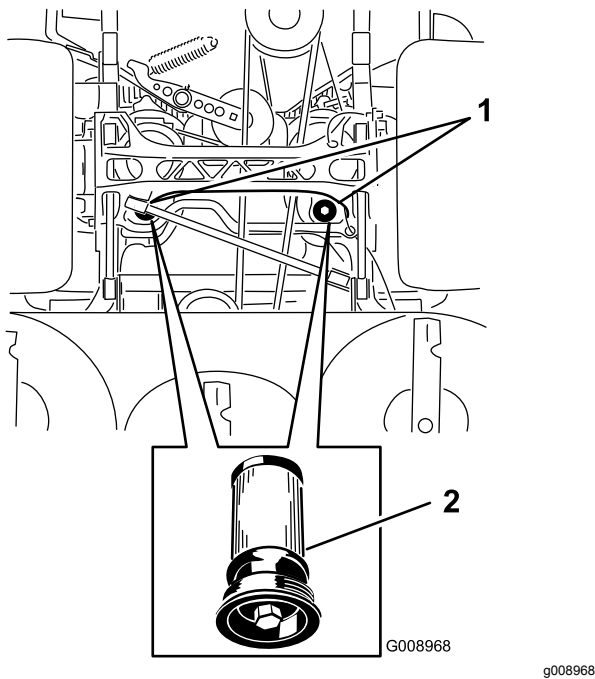

Figure 83
5. Place a drain pan under the filter, remove the old filter, and wipe the surface clean (Figure 83).
6. Apply a thin coat of hydraulic fluid to the rubber gasket on the replacement filter (Figure 83).